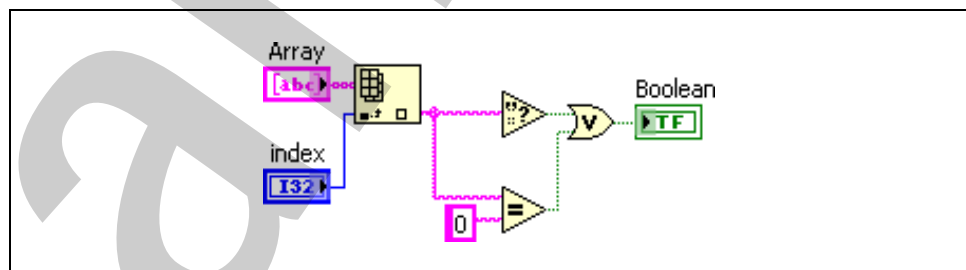

Figure 2-7. Improved Duplicate Code SubVI VI
- Delete broken wires and arrange as shown in Figure 2-7.